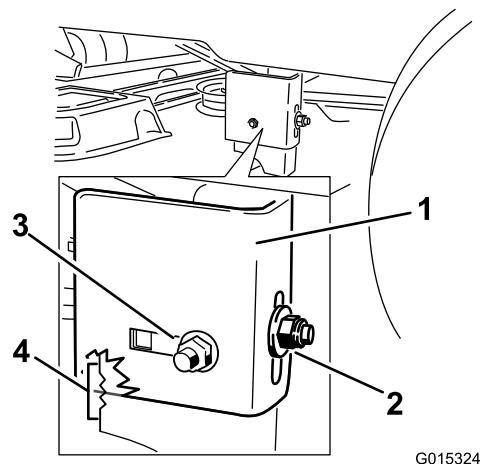
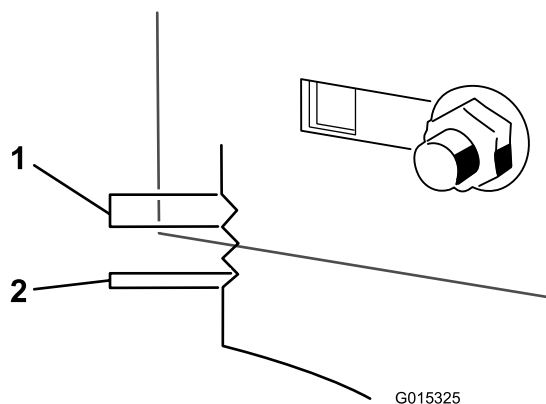

Figure 59
Figure 60
- Loosen the rear locking nut on the hanger bracket (Figure 59).
- Loosen the side locking nut on the hanger bracket just enough to allow the hanger to be adjusted (Figure 59). Use the notches on the welded bracket to measure the amount of adjustment. Each notch surface is equivalent to 0.25 inch, while a single side is 0.125 inch (Figure 60). Adjust the height of the mower deck to the desired height.
11. Stop the deck at the adjusted position and tighten the side locking nut on the hanger bracket to hold the new position (Figure 59). Tighten the rear locking nut on the hanger bracket.